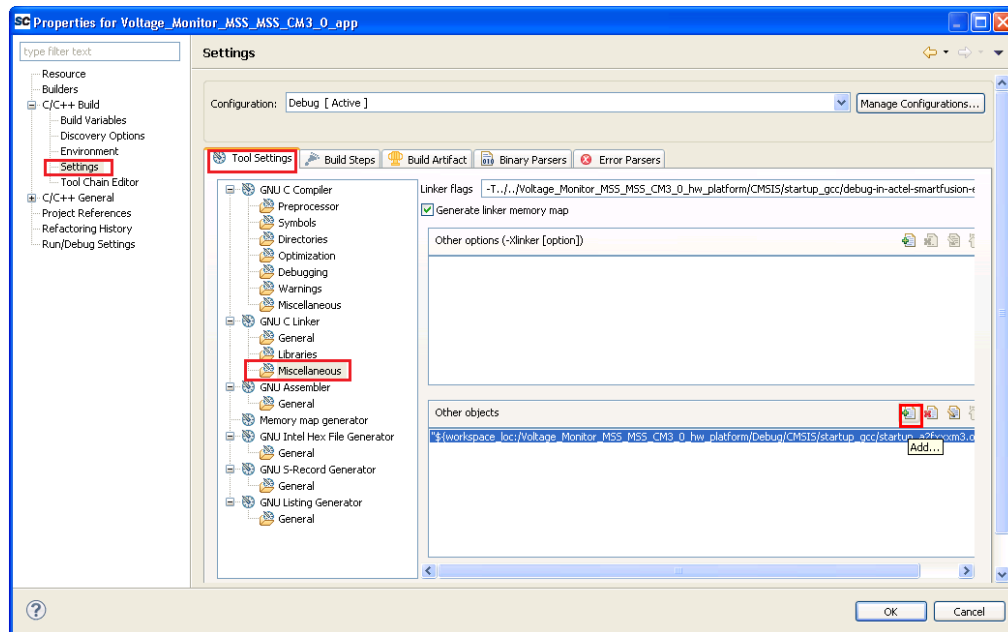

Figure 30 · Properties Window
7. Select **Miscellaneous** under **GNU C Linker** in **Tool Settings** tab as shown in Figure 30 . .